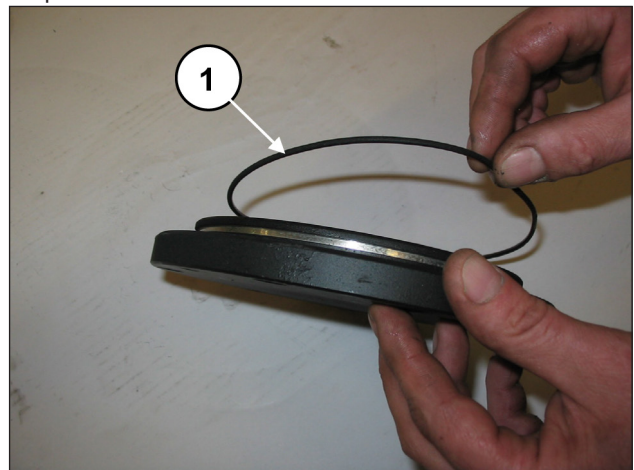
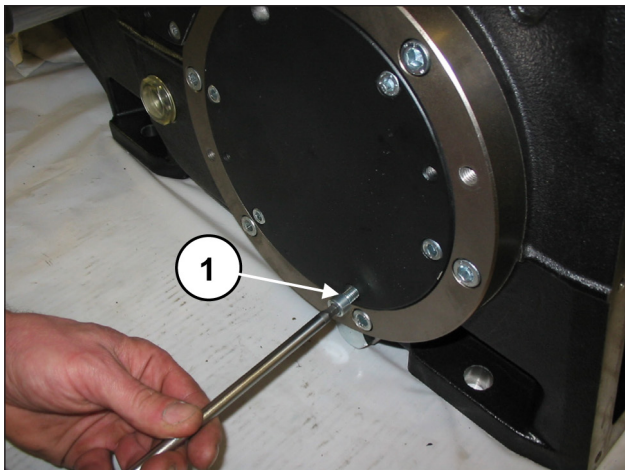

Fig. 89
Fig. 90
Mount the two bearing covers (with their O-rings) (pos. ①, Fig. 89) using 6+6 x M8x20 screws (pos. ①, Fig. 90).